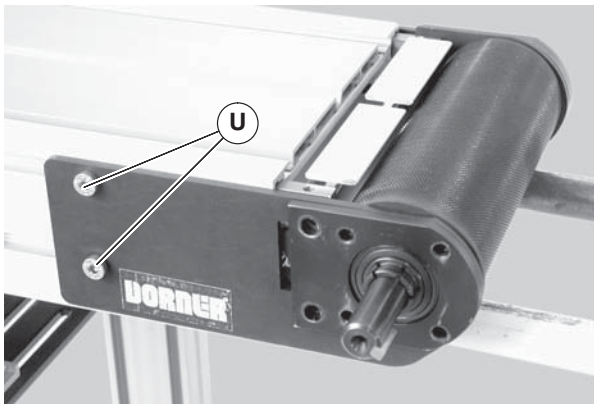

Figure 71
- On the drive headplate, remove two (2) screws (Figure 71, item U).